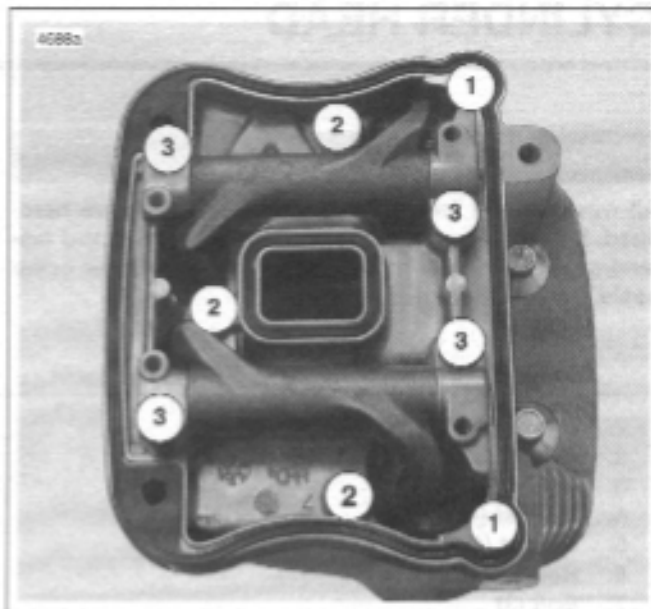

Figure 3-63. Lower Rocker Box Fasteners
6. See Figure 3-63. Remove hardware holding lower rocker cover to cylinder head in the following order.
- a. Remove two screws and washers (1).
- b. Remove three bolts and washers (2).
- c. Loosen the four rocker arm fasteners (3) in 1/4-1/2 turn increments using a cross pattern in order to relieve valve spring pressure on the lower rocker box.